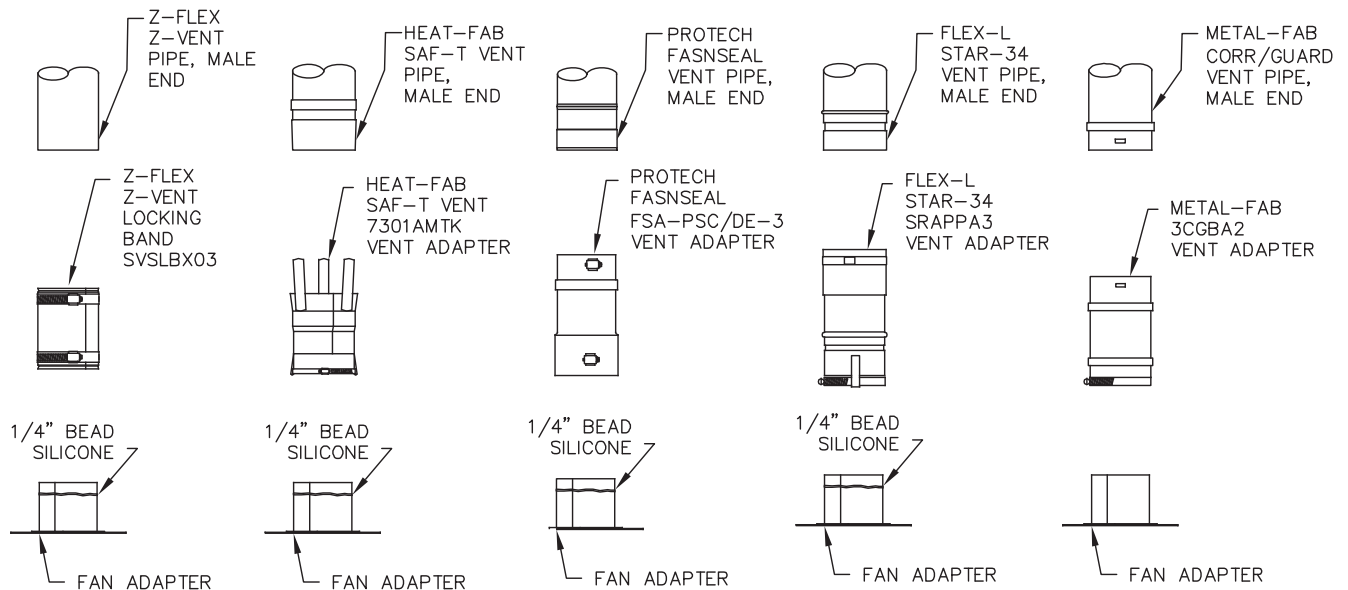

Figure 4.3: Vent Pipe Adapters
- e. Refer to Figure 4.3 that lists special vent adapters for connection to boiler fan adapter. These special adapters are not supplied with boiler.